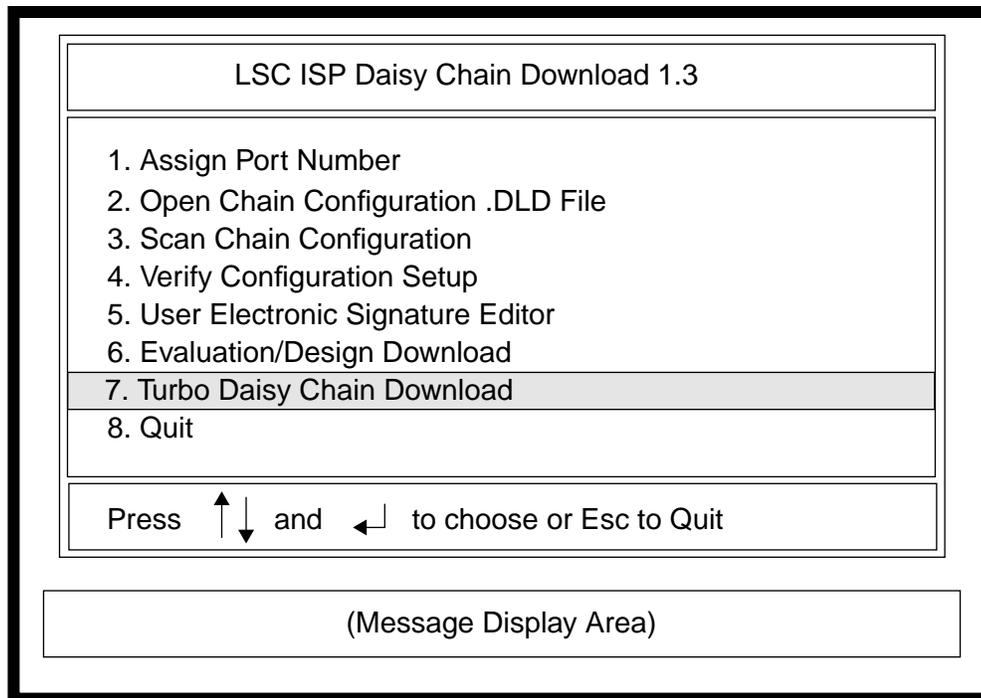

Figure 3-63. ISP Daisy Chain Download Menu
1. Select **7** or **T** from the IDCD menu (Figure 3-63). The Turbo Download menu appears (Figure 3-64).